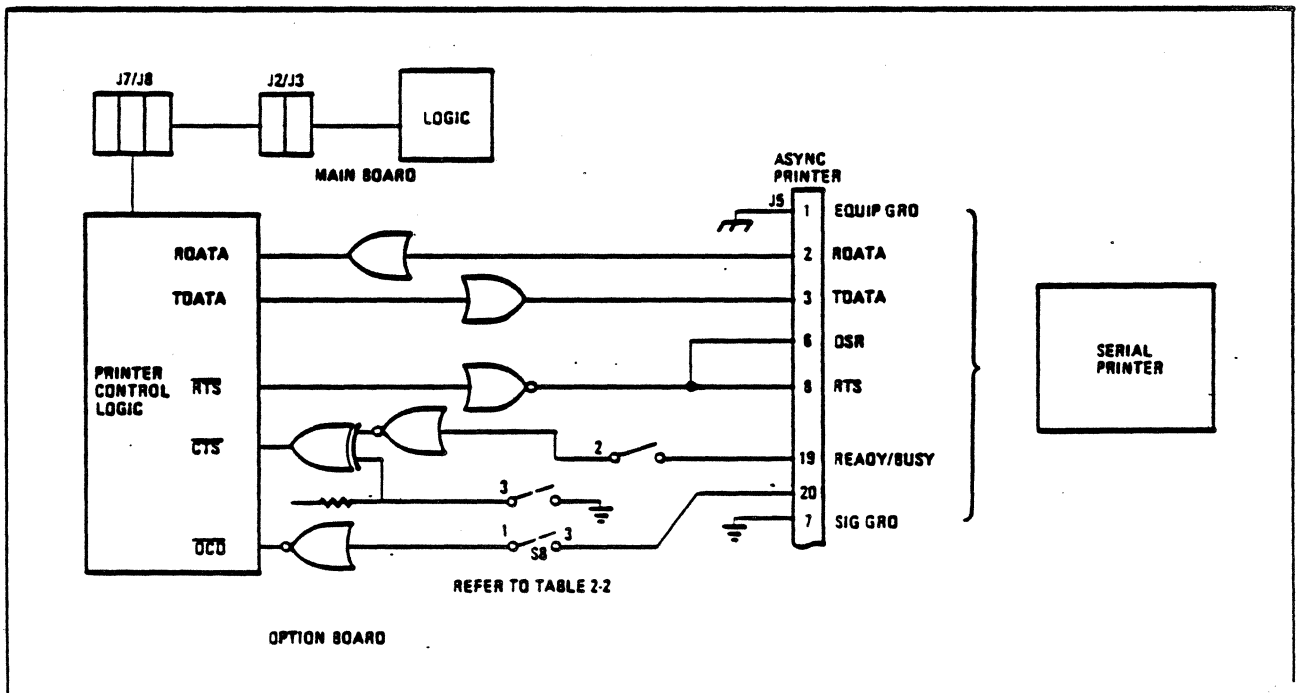

Figure 2-10. Printer Interface Logic
The PRINTER port is used to connect the ADM 42 directly to an asynchronous serial printer. Figure 2-10 shows the logic associated with this interface. The option logic board must be installed in addition to the main board. Refer to tables 2-1 and 2-2 for the settings of DIP switches on the main board and option board respectively, required to enable the PRINTER interface.
1. The Printer Interface and the READY BUSY control lines are enabled as appropriate for the application (see figure 2-10 and table 2-2).